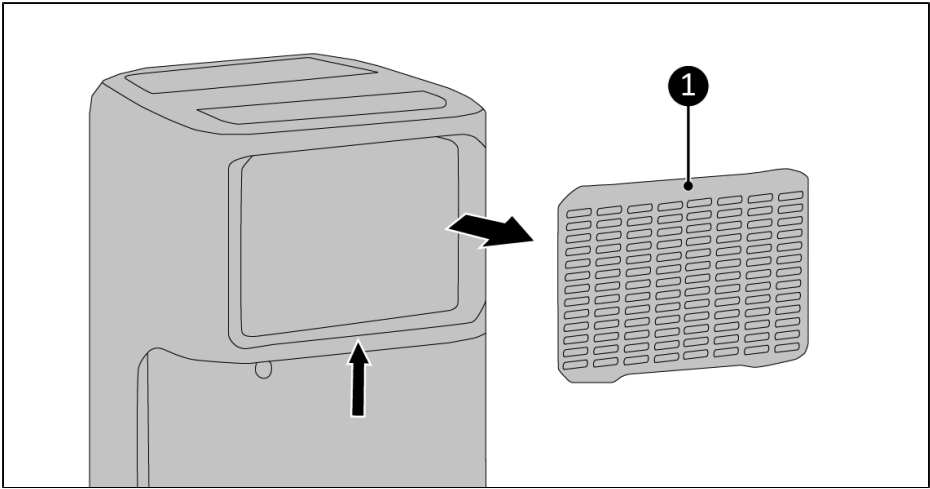

Figure 22.
2. Remove the filter (Figure 22, pos. 1).